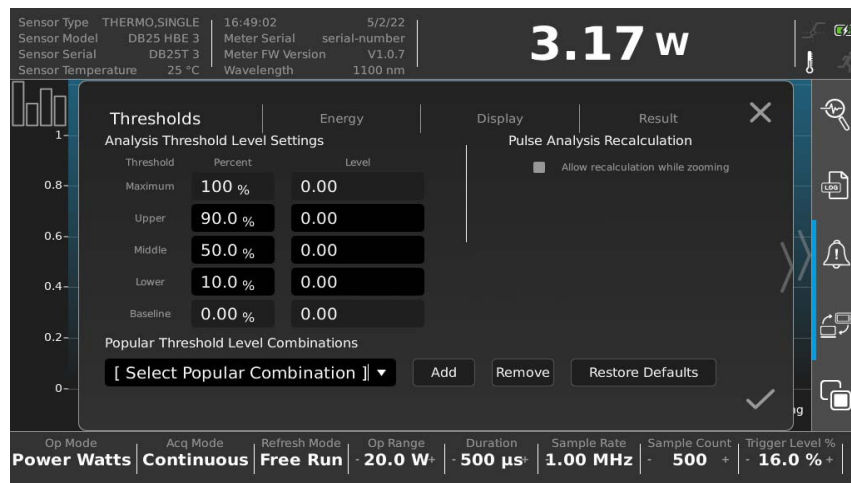

Figure 6-13. Pulse Analysis Settings
4. Adjust pulse settings, as necessary. Refer to Figure 6-13.
11. If a pulse is not captured with pulse analysis, return to the **Pulse Analysis Settings** screen and press **Restore Defaults** button in the Thresholds tab. Refer to Figure 6-13.